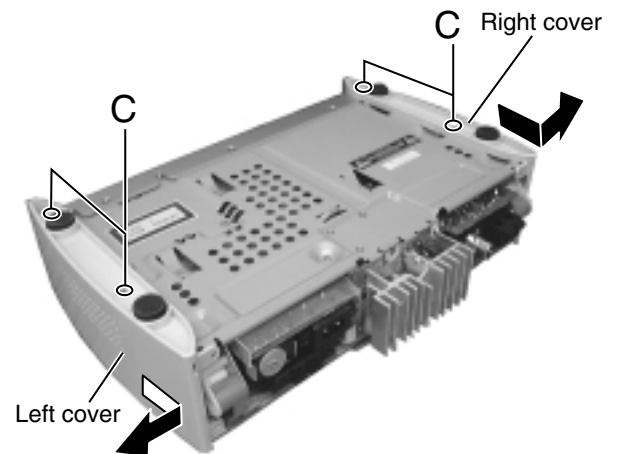

Fig.2
■ Removing the right and left covers (See Fig.2)